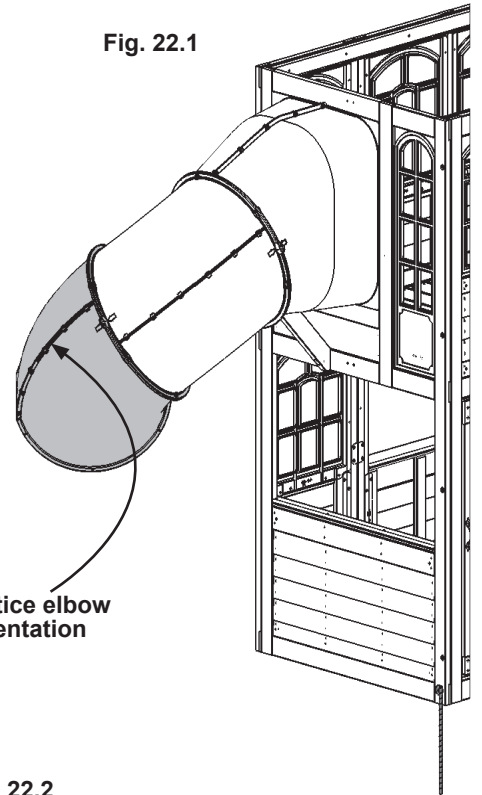

Fig. 22.1
**A:** Fit a second Elbow Assembly to the first Elbow Assembly by lining up the arrows on each assembly. Notice the elbow orientation. (fig. 22.1)